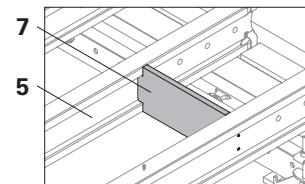

Fig. B1.15a
1. Secure Girder VT 20K (5) against tipping over by means of anti-tipping bracing (7). (Fig. B1.15a)